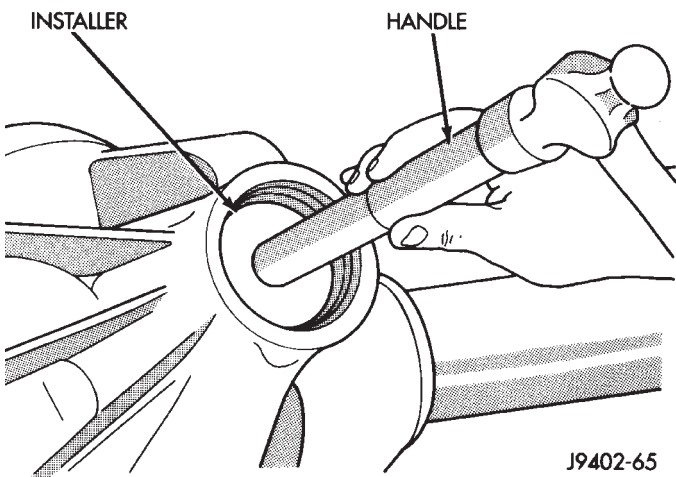

Fig. 34 Pinion Outer Bearing Cup Installation
(3) Apply Mopar® Door Ease, or equivalent, stick lubricant to outside surface of front pinion bearing cup. Install the bearing cup with Installer D-144 and Handle C-4171 (Fig. 34).